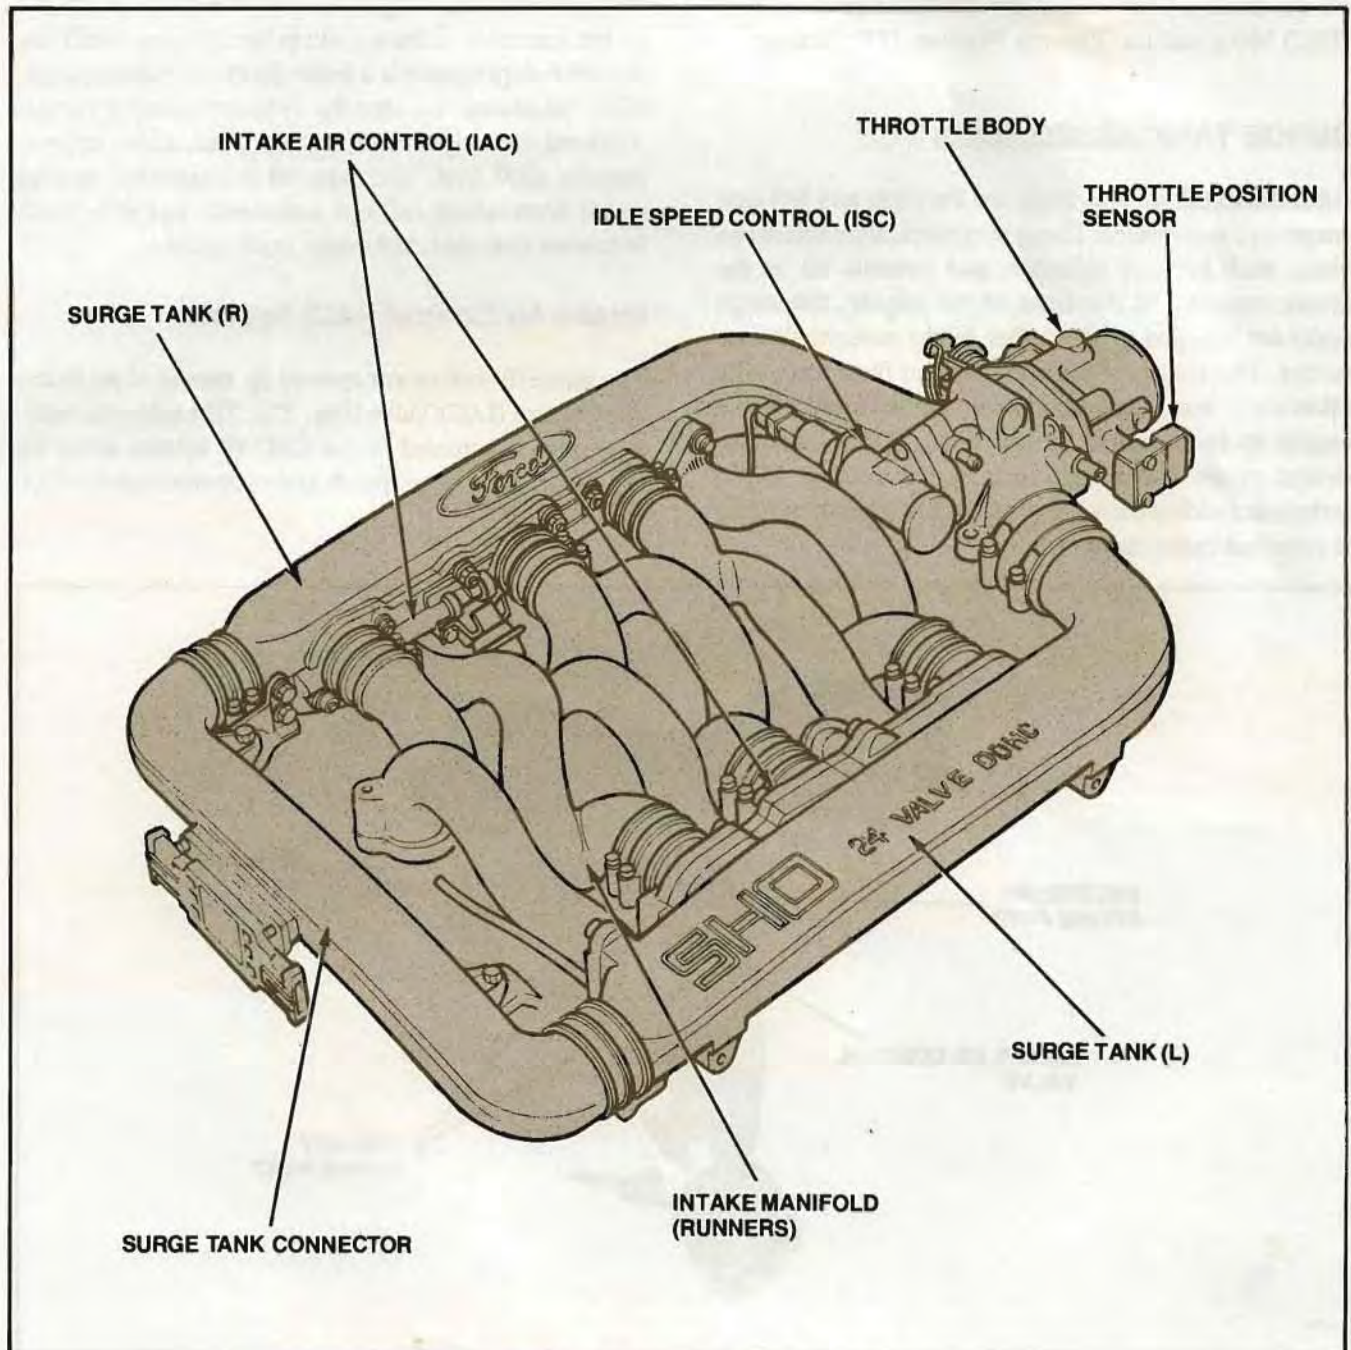

Figure 56. Air Intake Control System
The air intake system (Fig. 56) is the most noticeable and visually impressive engine system that is immediately visible upon opening the hood. The primary feature of the air intake system is the dual surge tank/dual runner design. The surge tanks are fed air by a single throttle body that faces toward the left side of the vehicle. Two EEC-IV controlled components are mounted on the throttle body. These are the Idle Speed Control (ISC) Valve and the Throttle Position (TP) Sensor.